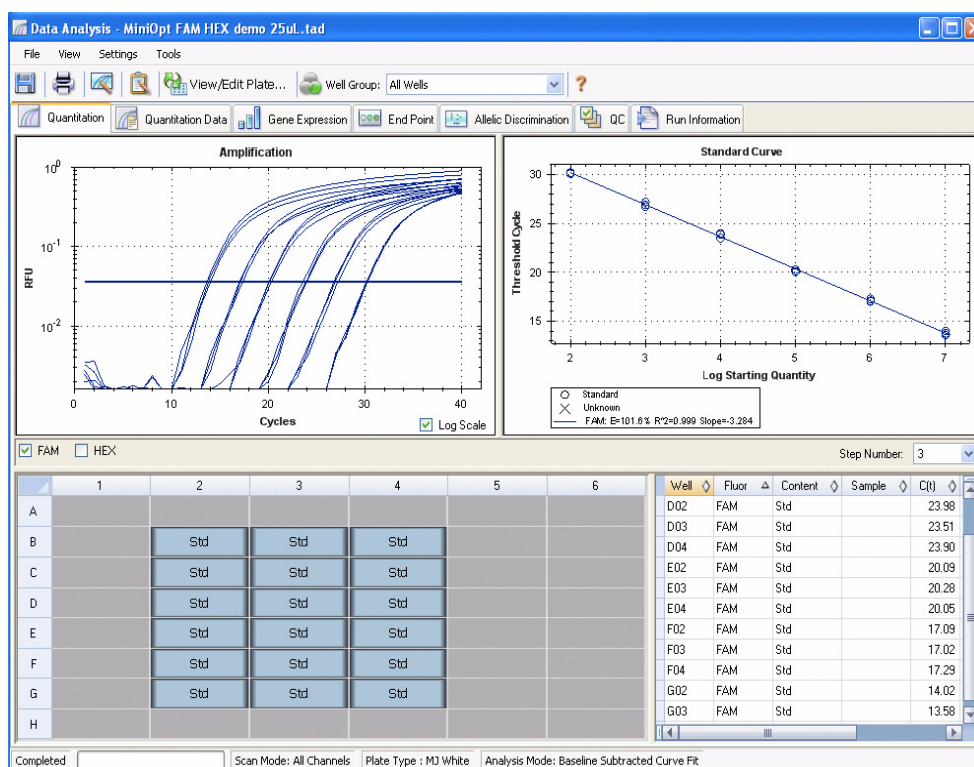

Figure 43. Layout of the Quantitation tab in the Data Analysis window.
Each tab in the Data Analysis window displays data in charts and spreadsheets for a specific analysis method, with a well selector to select the data you want to show. The Data Analysis window opens with the Quantitation tab (Figure 43) in front. The **Amplification** chart data in this tab should be used to determine the appropriate analysis settings for the experiment.
1. Select one fluorophore in the fluorophore selector in the Quantitation tab (Figure 43) by clicking the boxes next to the fluorophore name located under the Amplification chart.